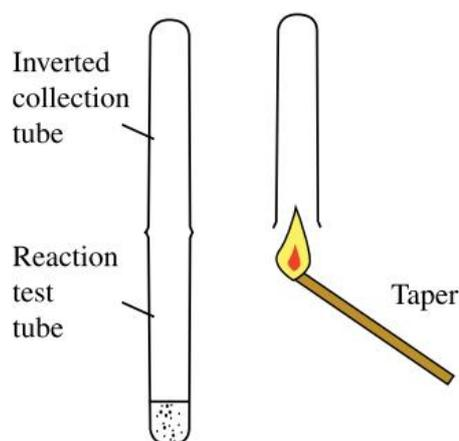

Figure 19.1: Collecting and testing for hydrogen
2. Collect any gas that is evolved in another test tube by inverting it over the first test tube, as shown in figure 19.1. Apply a lighted taper to the mouth of the inverted test tube and identify the gas present from the result of this test.